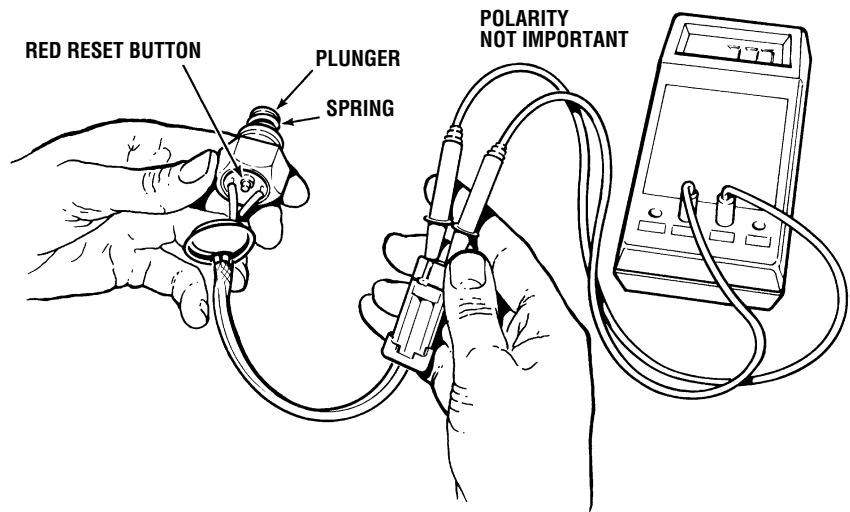

Figure 5-16 Overheat Sensor Test
- a) Connect a multimeter (adjusted to measure resistance) to the overheat breaker connector. (Figure 5-16.)